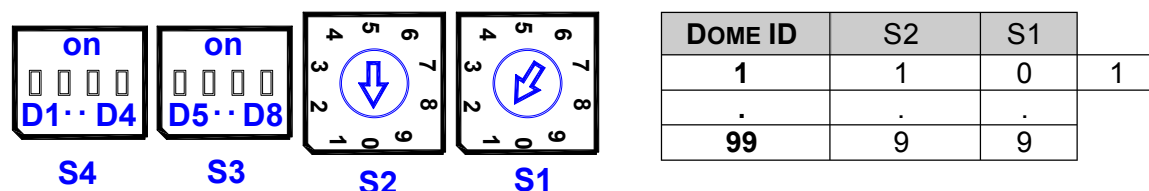

Figure 9 - Setting Dome Camera Address (ID) and Protocol
Refer to Figures 9 for setting the dome camera address (ID) and protocol selection.